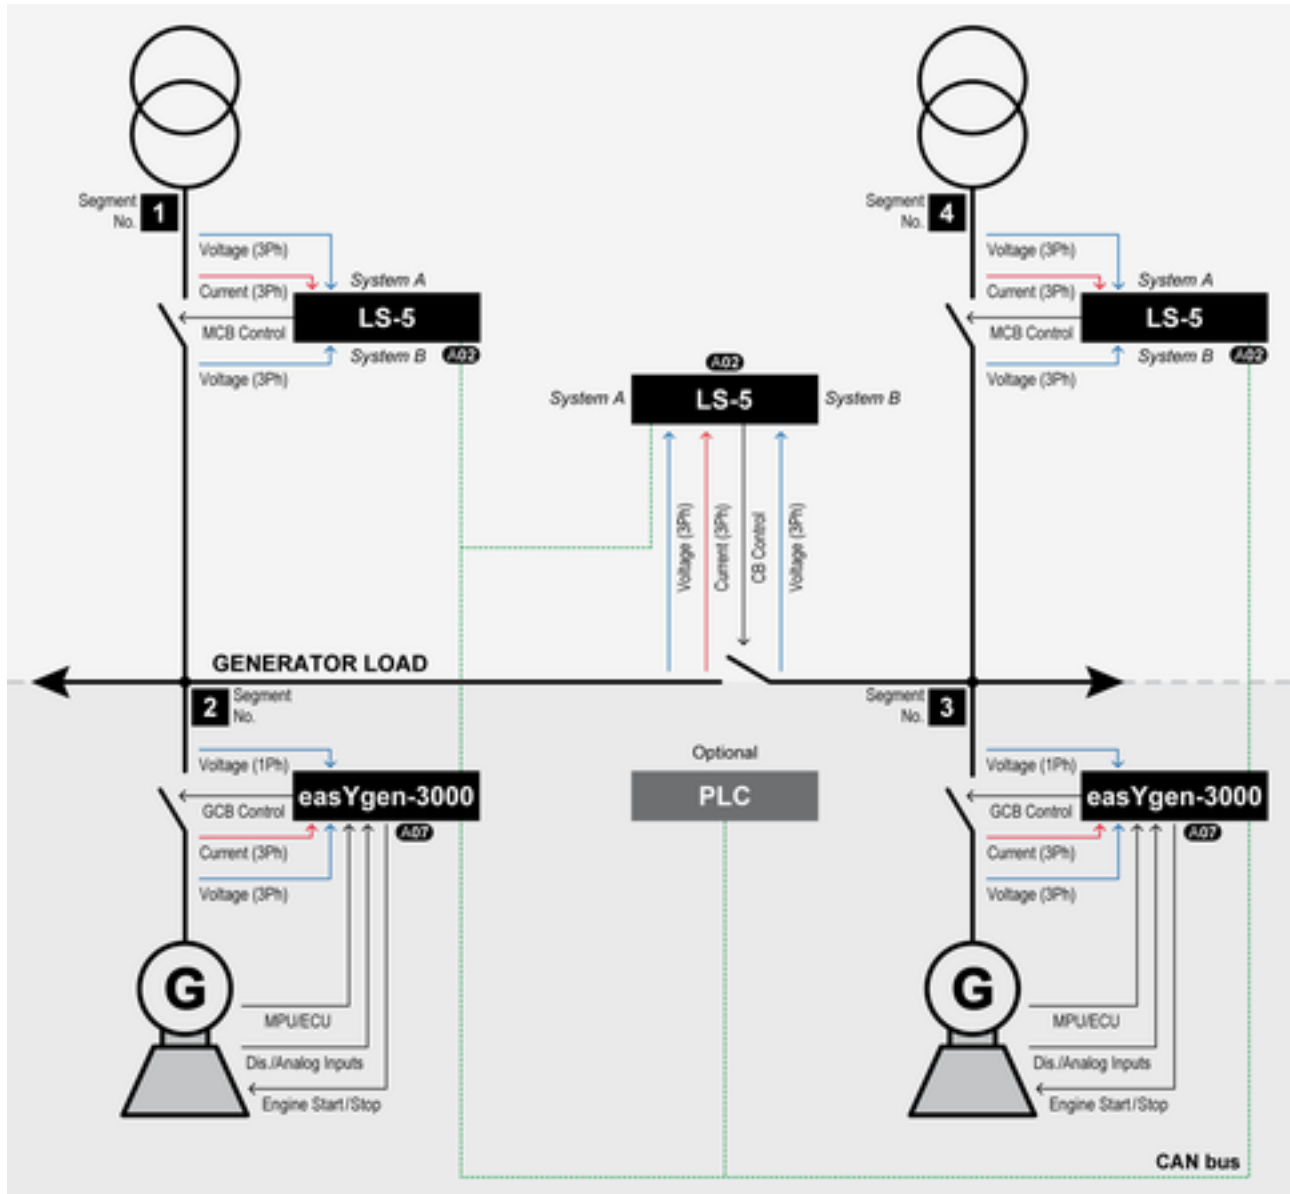

Fig. 133: H-Configuration with two easYgen and two incoming mains and tie-breaker
One or more genset(s) feed on a generator/load busbar (Fig. 133/ Segment No. 2). One or more genset(s) feed on a generator/load busbar (Fig. 133/Segment No. 3). A tie-breaker is located between the both generator/load busbars. Each generator/load busbar has its own incoming mains breaker (Fig. 133/ Segment No. 1/4).
1. The system A voltage and current measurement is connected to the generator/load busbar segment (Fig. 133/Segment No. 2).
2. The system B voltage measurement is connected to the generator/load busbar segment (Fig. 133/Segment No. 3).